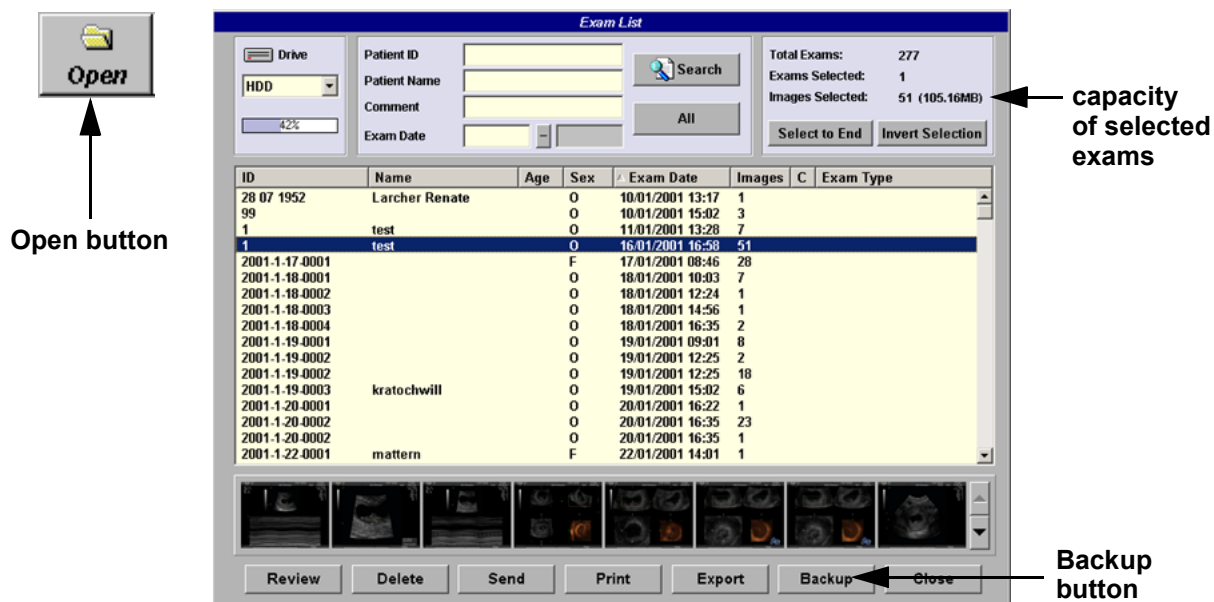

Figure 4-36 Sonoview Screen
- 3.) When you click the **OPEN** button on the upper left side of the screen, a list of all the exams is displayed see Figure 4-36.